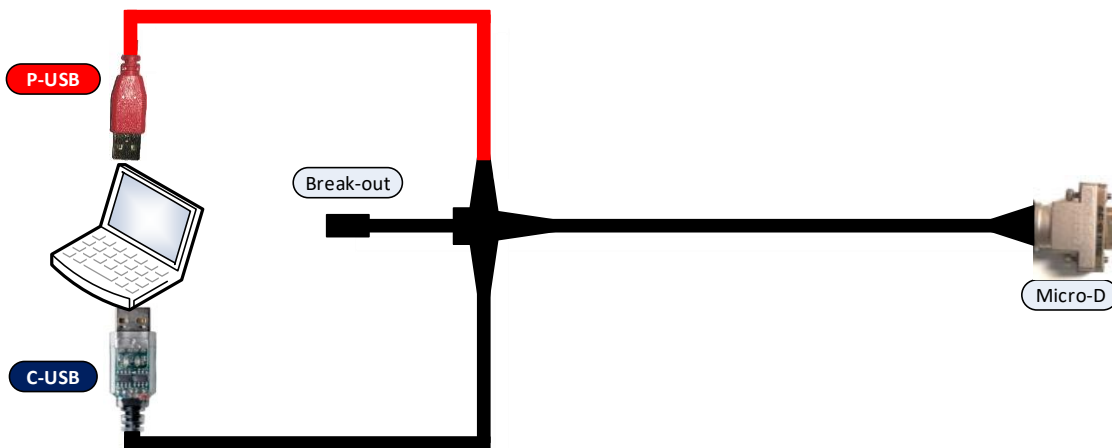

Figure 8: Connecting the EVK to a computer.
- Connect the USB-RS422 plug to a spare USB port on your PC. *Figure 8* shows how to connect the EVK to a PC
Figure 8 shows how to connect the EVK to a PC